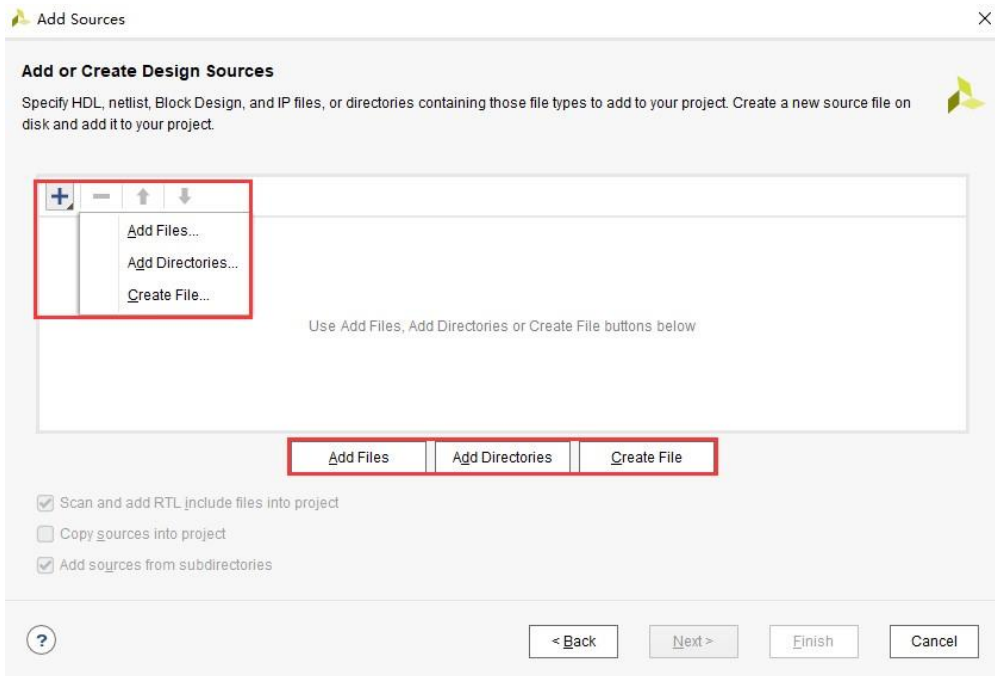

Figure 3.
3. Click the button **+** and select options or click the options directly to add or create files, as shown in figure 3.